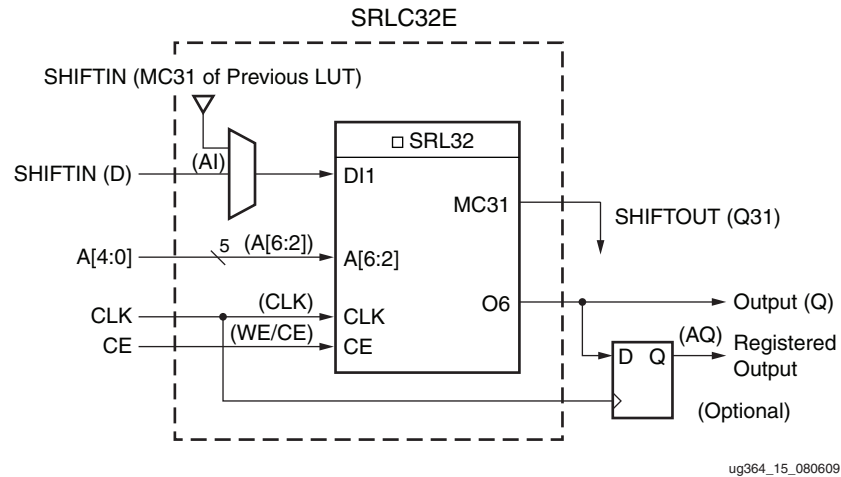

Figure 15: 32-bit Shift Register Configuration
The write operation is synchronous with a clock input (CLK) and an optional clock enable (CE). A dynamic read access is performed through the 5-bit address bus, A[4:0]. The LSB of the LUT is unused and the software automatically ties it to a logic High. The configurable shift registers cannot be set or reset. The read is asynchronous; however, a storage element or flip-flop is available to implement a synchronous read. In this case, the clock-to-out of the flip-flop determines the overall delay and improves performance. However, one additional cycle of clock latency is added. Any of the 32 bits can be read out asynchronously (at the O6 LUT outputs) by varying the 5-bit address. This capability is useful in creating smaller shift registers (less than 32 bits). For example, when building a 13-bit shift register, simply set the address to the 13th bit. Figure 15 is a logic block diagram of a 32-bit shift register.